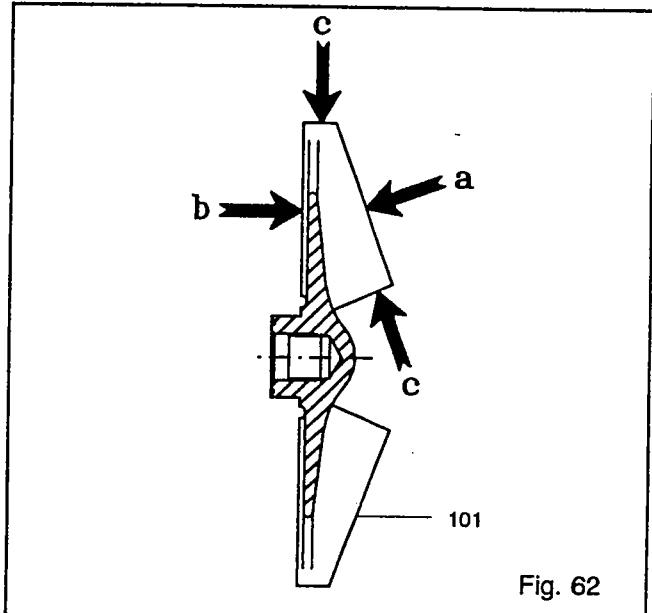

Fig. 62
1. Inspect impeller (101) vanes for damage. Replace if grooved deeper than 1/16 in. (1.6 mm) or if worn evenly more than 1/32 in. (0.8 mm). (Area "a" in Fig. 62)
2. Inspect pumpout vanes for damage. Replace if worn more than 1/32 in. (0.8 mm). (Area "b" in Fig. 62)
3. Inspect leading and trailing edges of the vanes for pitting, and erosion or corrosion damage. (Area "c" in Fig. 62.)